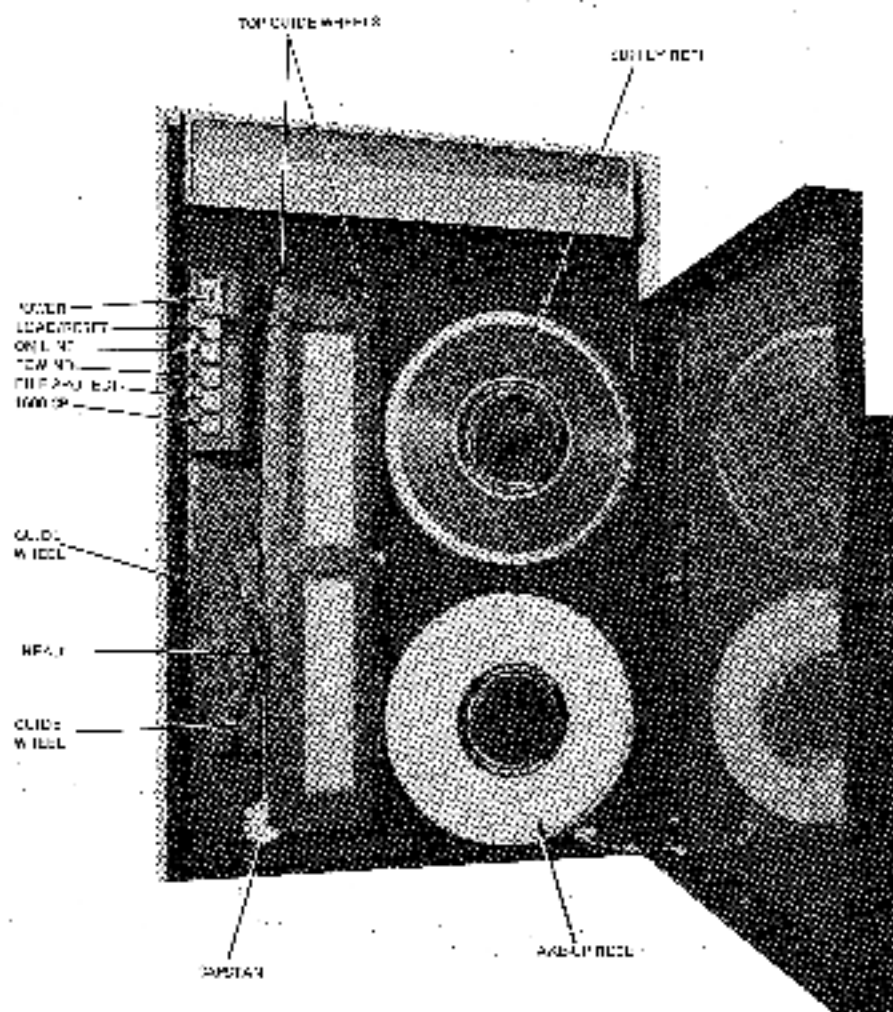

Figure 7-13 TL45 Magnetic Tape Drive
7.4.1.4 TU45 Drives (Refer to Figure 7-13)